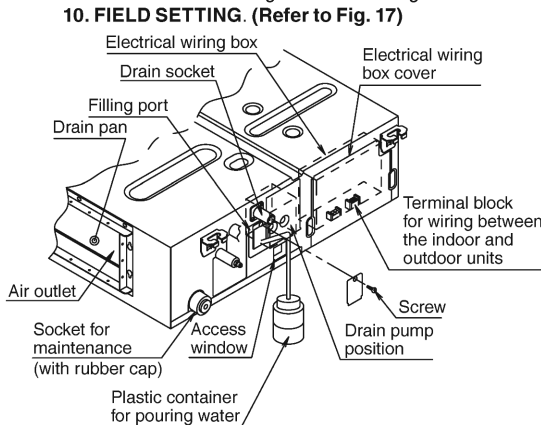

Fig. 17
- Gradually pour 1/4 gal of water from the inspection port at the bottom of the drain socket on the left side of the drain socket into the drain pan giving caution to avoid splashing water on the electric components such as drain pump and confirm drainage by operating the indoor unit under cooling mode according to 10. FIELD SETTING. (Refer to Fig. 17)
- Gradually pour 1 litre of water from the air outlet on the left side of the drain socket into the drain pan giving caution to avoid splashing water on the electric components such as drain pump. (Refer to Fig. 17)